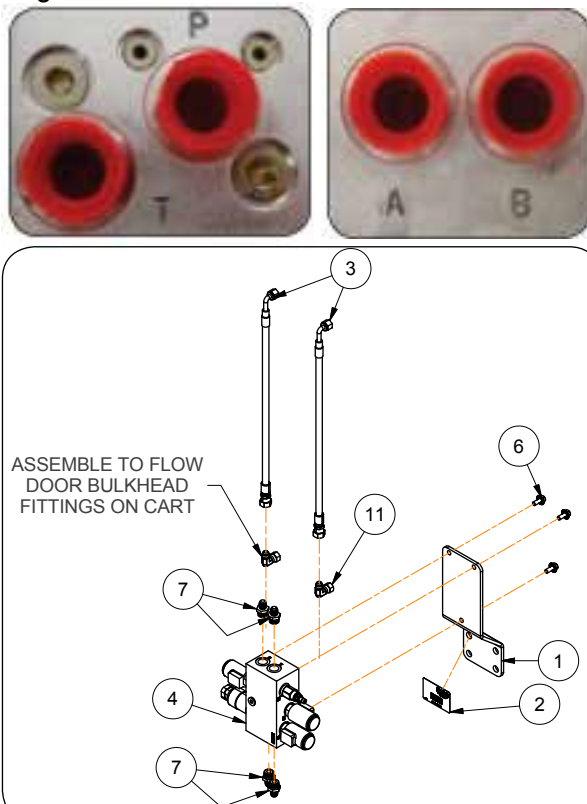

Fig. 73B
8. Mount the Accu-Load manifold (9005476) to the mounting plate (252046B) using the three 5/16-inch flange screws (91256). (Fig. 73B)